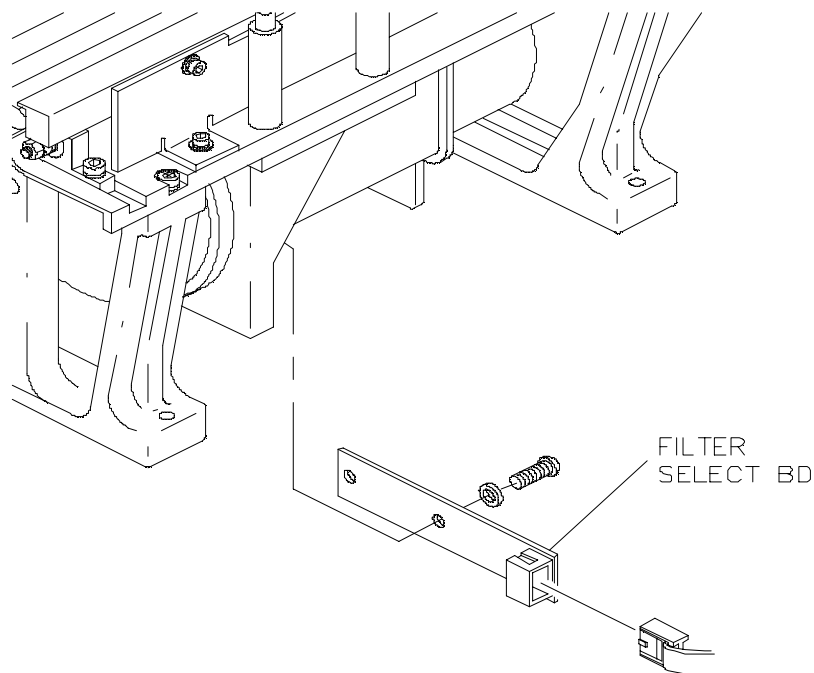

Figure 4-44. Filter Select Bd
6. Remove board mounting hardware from two places (**Figure 4-44**).